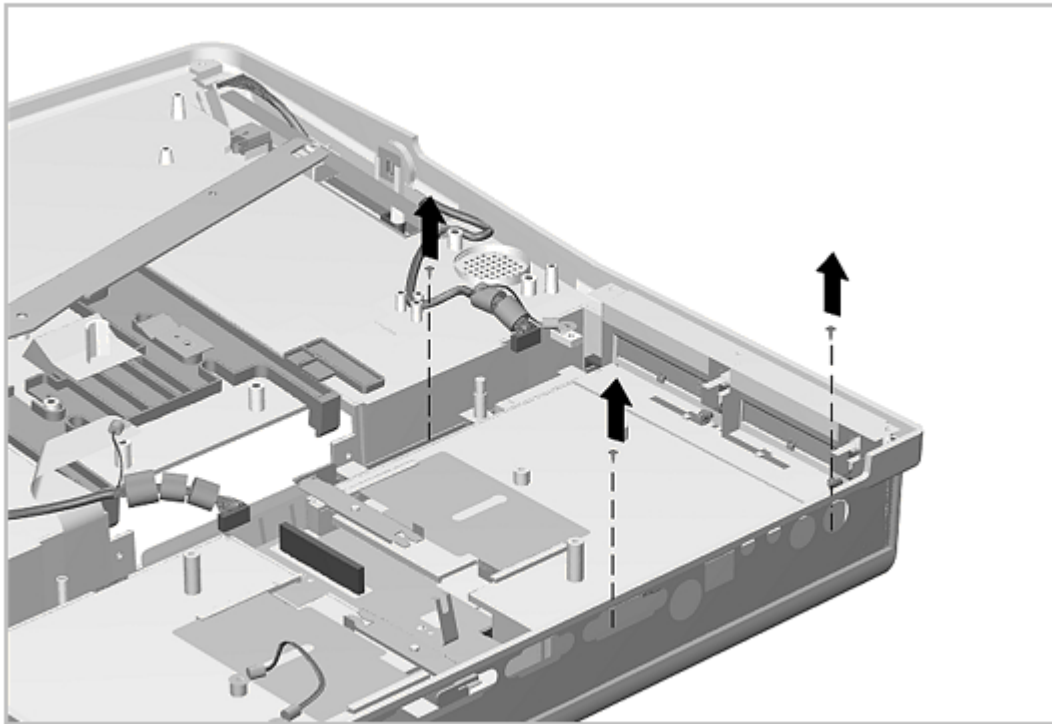

Figure 7-22. Removing the MultiBay Assembly Screws
1. Remove the three screws and lift the bay out (Figure 7-22).